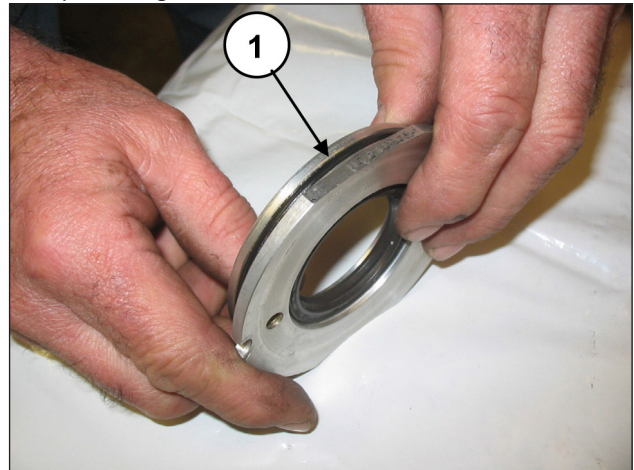
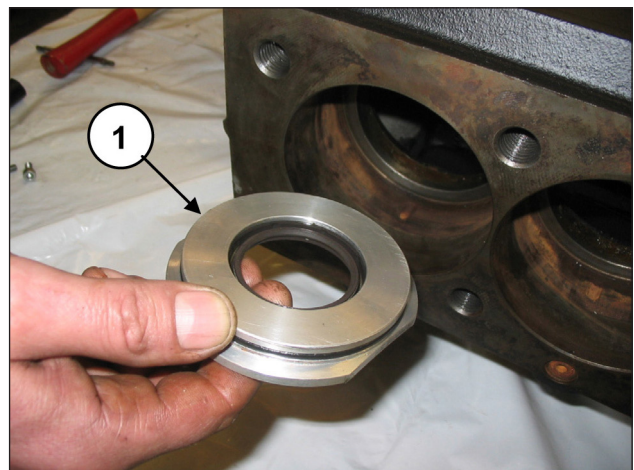

Fig. 170
Fig. 171
Position the O-ring (pos. ①, Fig. 170) in the seat of the oil seal cover and insert the assembly mounted in the casing into the seat (pos. ①, Fig. 171).